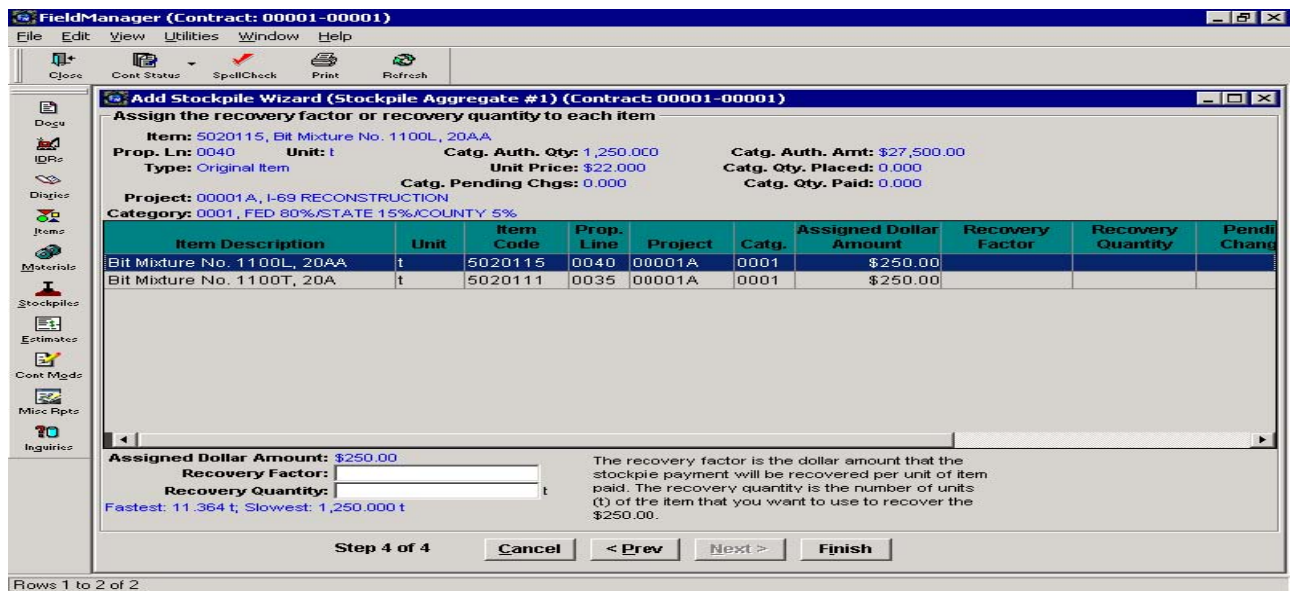

Figure 8-9
Step 4 of 4 asks you to indicate the recovery factor or recovery quantity for each item assigned to the stockpile (see Figure 8-9).